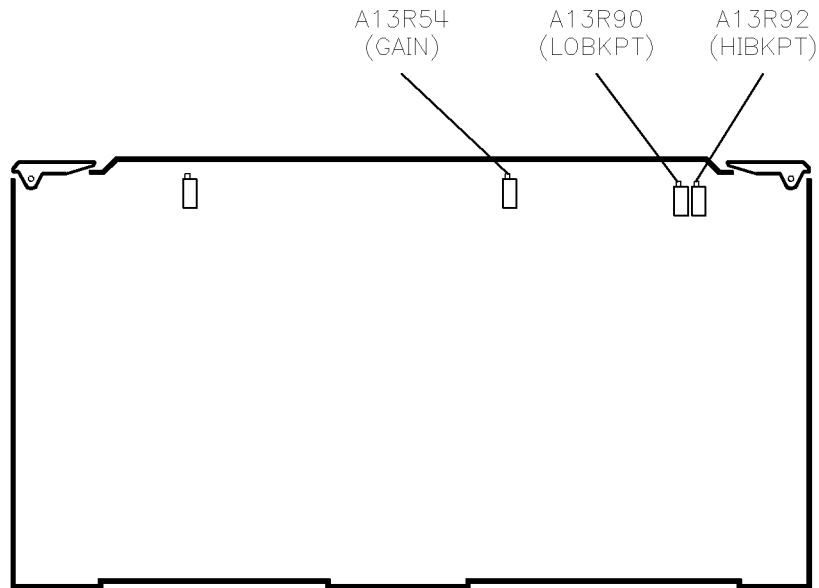

Figure 3-9. YO Gain and Linearity Adjustment Locations
4. Adjust A13R54 (see Figure 3-9) to center the "needle" on the display.
6. Adjust A13R90 (see Figure 3-9) to center the “needle” on the display.
8. Adjust A13R92 (see Figure 3-9) to center the “needle” on the display.